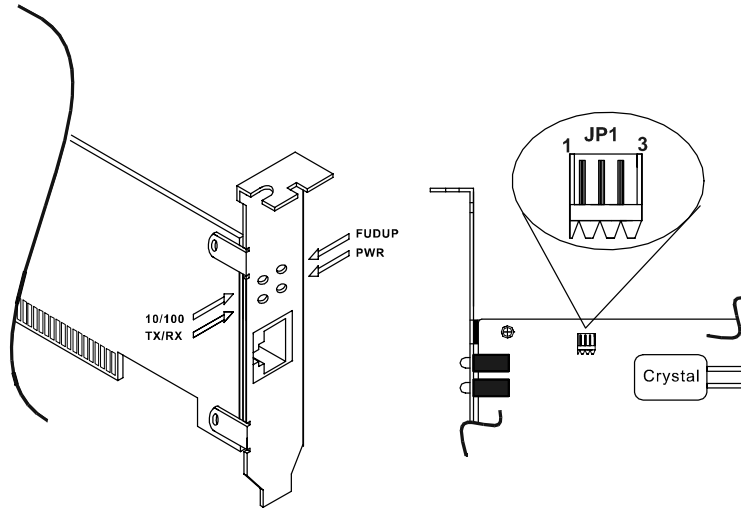
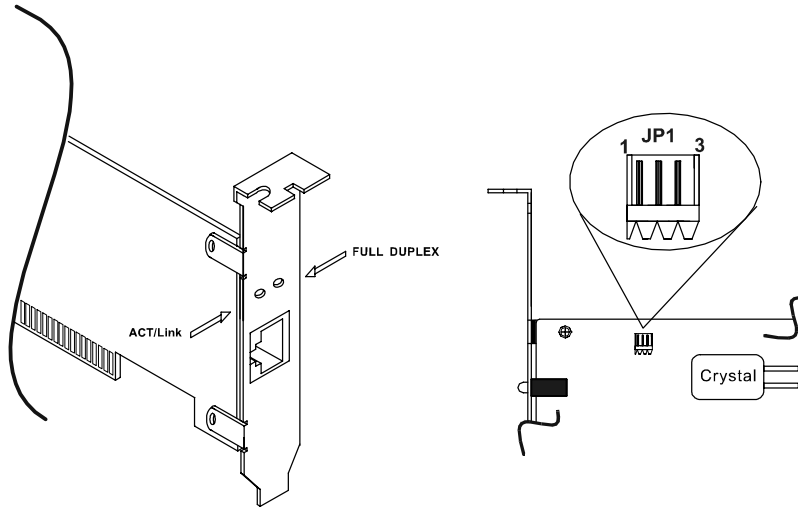

Fig. 3-1a LED indicators and the connector for remote wake-up signal cable (LFE- 8139ATX)
Fig. 3-1b LED indicators and the connector for remote wake-up signal cable (LFE-8139HTX)
3. Check the LEDs, as shown in Fig. 3-1a, Fig. 3-1b.
LFE-8139ATX comes with four LED indicators on the back plane of the adapter. **LFE-8139HTX** comes with two LED indicators. LED indicators inform you about the network status as shown in the Fig. 3-1a and 3-1b.